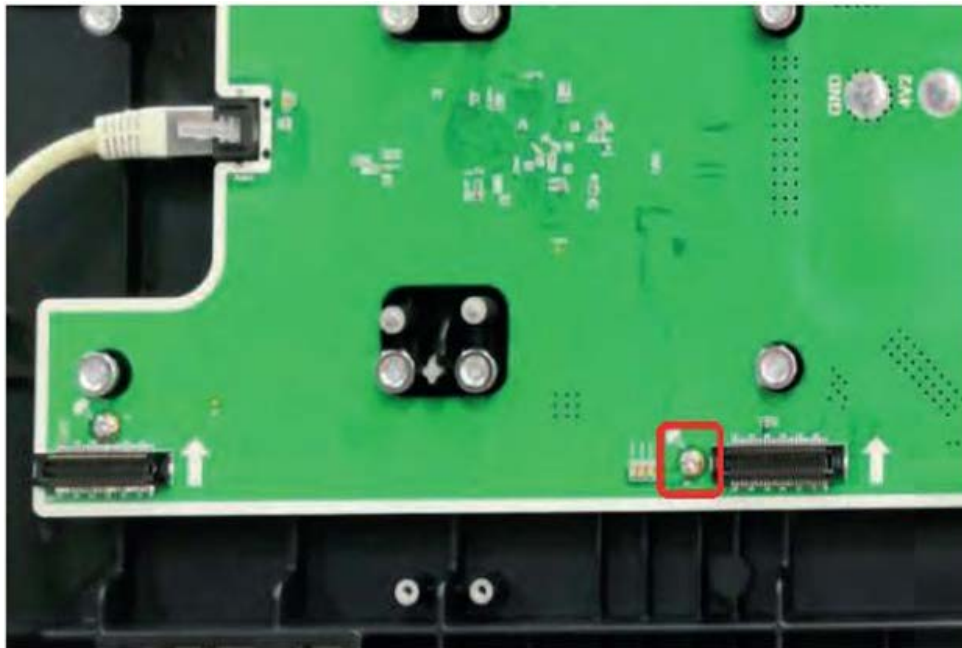

Figure 33
4. Attach the 3-in-1 board with 8 screws as shown in Figure 33. Tighten the screws to fit.